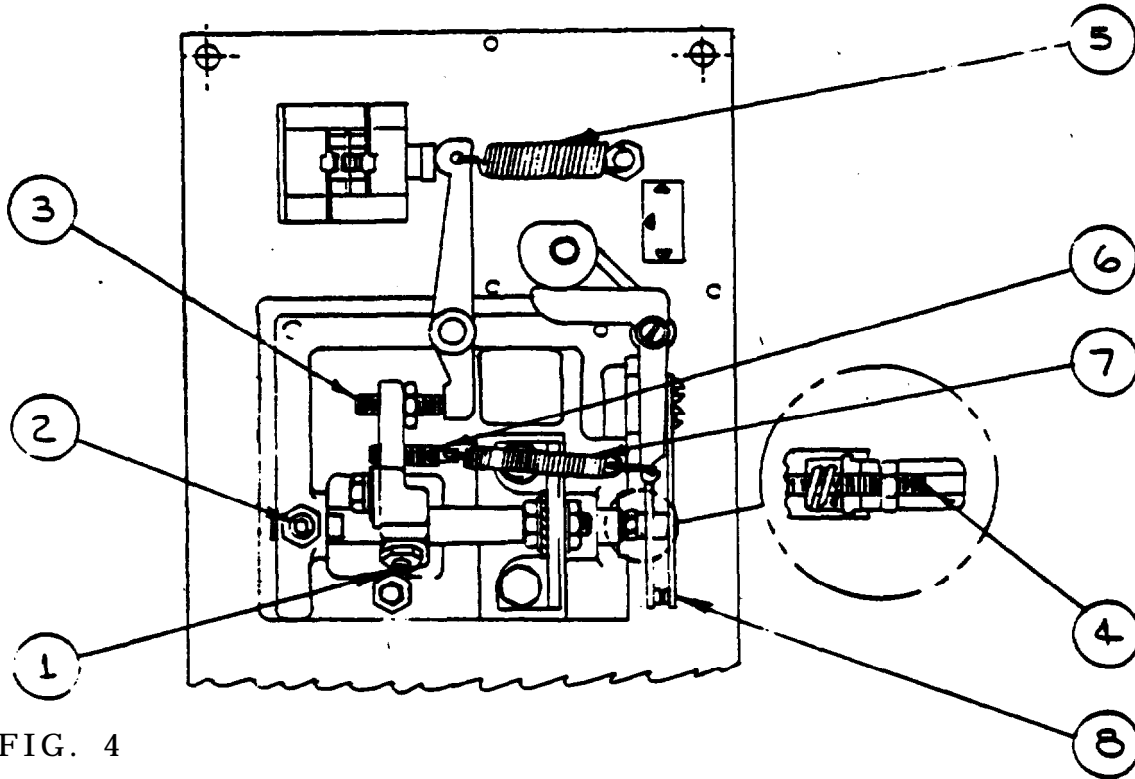

FIG. 4
4. Verify the proper setting of the slide rod stop screw (item 2, fig. 4). It is adjusted to maintain 1/4 turn clearance between the end of the stop screw and the milled flat on the slide rod. The movable jaw must move freely with both tilt adjustments barring on the jaw.
1. Loosen the lockscrew (item 1, fig. 4) that holds the movable jaw to the slide rod.
3. Push the slide rod toward the fixed jaw until the shoulder of its milled flat contacts the slide rod stop screw (item 2, fig. 4).
4. Tighten the lockscrew (item 1, fig. 4) and lock the jam nut on it.
3. Turn the adjustment screw (item 4, fig. 4) as required to just break the circuit with 0.140" gap. (Cw reduces the gap; CCW increases the gap.)
The upset force shall be from 10 to 12 lbs. when measured at the movable jaw with the upset force selector set for the narrowest width band. The approximate locations of the upset force adjustment screw (item 6, fig. 4) is with the back end of the screw flush with the cost jaw surface. The final adjustment is made in the following manner:
1. Disconnect the weld lever return spring (item 6, fig. 4).
7. If the spring scale reading at this point does not fall in the required range (10 to 12 lbs.) the upset force adjustment screw must be reset, (item 6, fig. 4).
8. To re-set the screw, disconnect the jaw upset spring (item 7, fig. 4) and turn the screw, as required.
With the weld lever in the anneal position, (as located by the detent of the drag spring) and the upset force doctor in its widest position, turn the jaw gap adjustment screw (item 3, fig. 4) to obtain 15/32" jaw gap. Lock the adjustment in place.